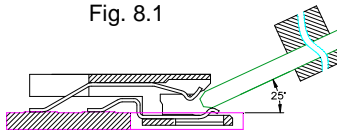
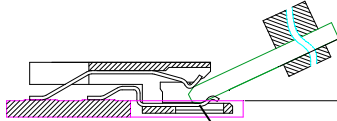

Fig. 8.2
Fig. 8.3
**Step 2nd:** Rotate module to 25° (Fig. 8.2) and insert it until module bottom surface reach the ramp (Fig. 8.3).